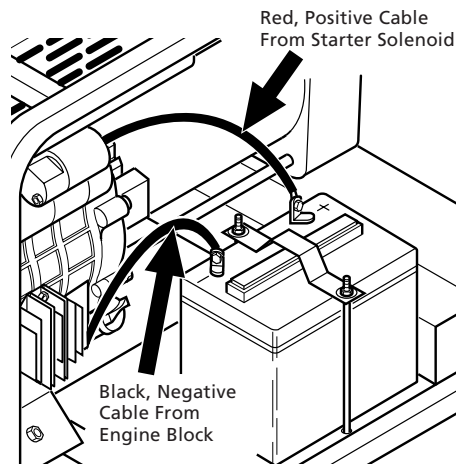

Figure 13 – Connecting Positive and Negative Cables to Battery
2. Locate the red, positive (+) battery cable from starter solenoid. Connect it to the positive (+) battery terminal (See Figure 13).
3. Locate the black, negative (-) battery cable attached to engine block. Connect it to the negative (-) battery terminal (See Figure 13).